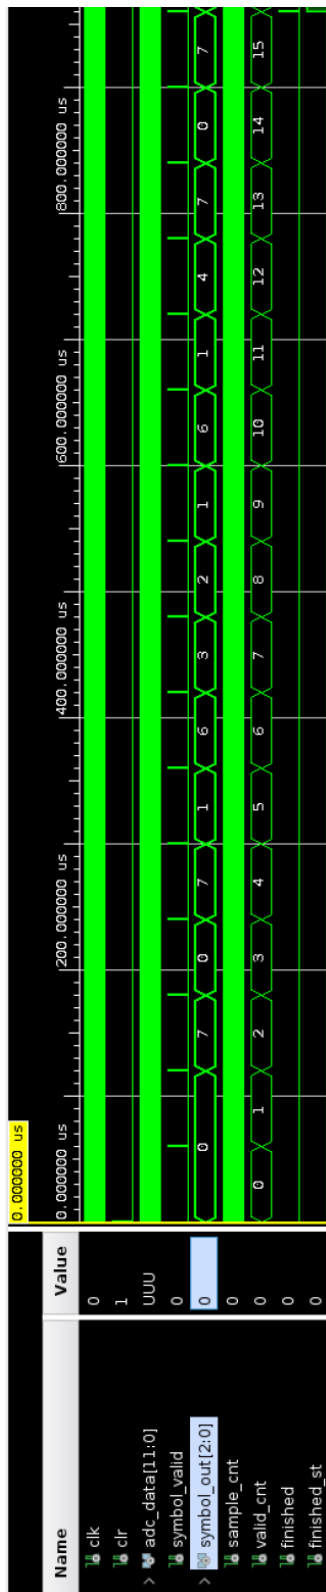

Figure B.5: Sample waveform based on the testbench. Note that each symbol\_out should be only related to one symbol\_valid
**B.2.4 Example Run** Based on our provided testbench, the waveform shown in Figure B.5 illustrates the expected behavior of your block when the output sequence is '0', '7', '0', '7', '1', '6', '3', '2', '1', '6', '1', '4', '7', '0', '7', '0'. You can also check your output sequence in the tcl console window, as shown in Figure B.3.